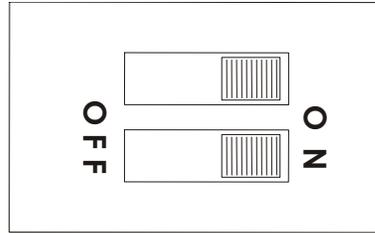

Figure 10-3 12V DO Dip Switch
- 3) Carefully remove the plastic wrap covering from the S3 dip switch (see Figure 10-3) on the DO module board.